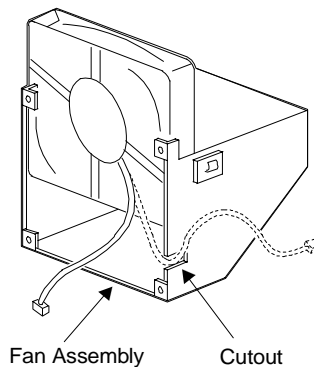

Figure C-3. Replacing the Fan and Fan Cable
11. Slide a new fan into the fan assembly. The fan must be positioned with its cable next to the cutout. See Figure C-3. The label must be facing out toward the rear panel.